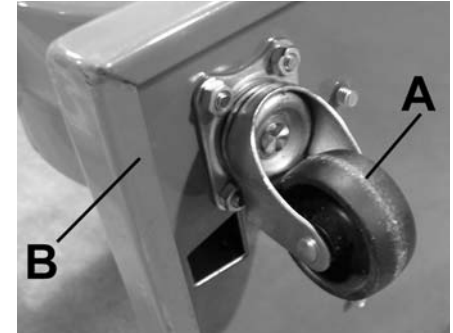

Figure 1
To install four wheel casters (A) Fig.1 to the underside of the base (B), follow these instructions;